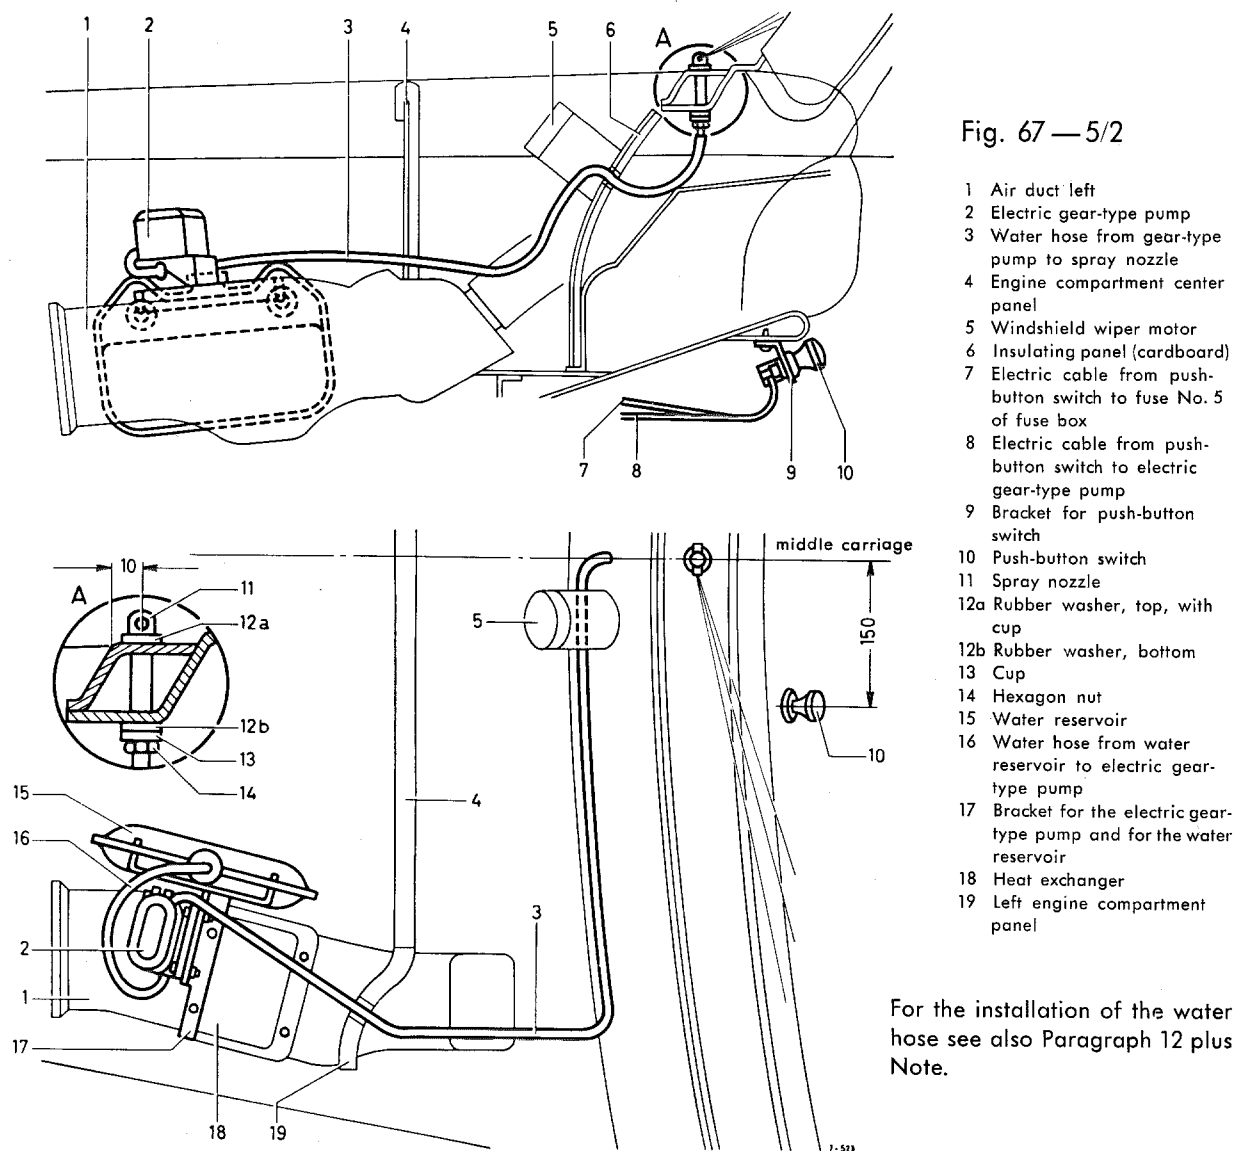

Fig. 67 — 5/2
3. Hold the bracket (9) for the push-pull switch (10) against the reinforcement plate under the instrument panel approx. 150 mm to the left from the car center line (see Fig. 67 — 5/2), mark the 2 holes for the cheese-head tapping screws and drill the holes to 3.4 mm \varnothing .